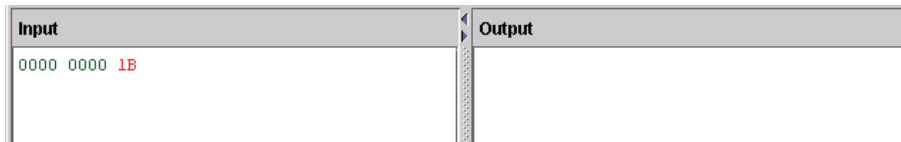

Figure 159 Hex Entry Mode
39. Type **1B**. To enter the hex equivalent of <ESC>. See Figure 159.